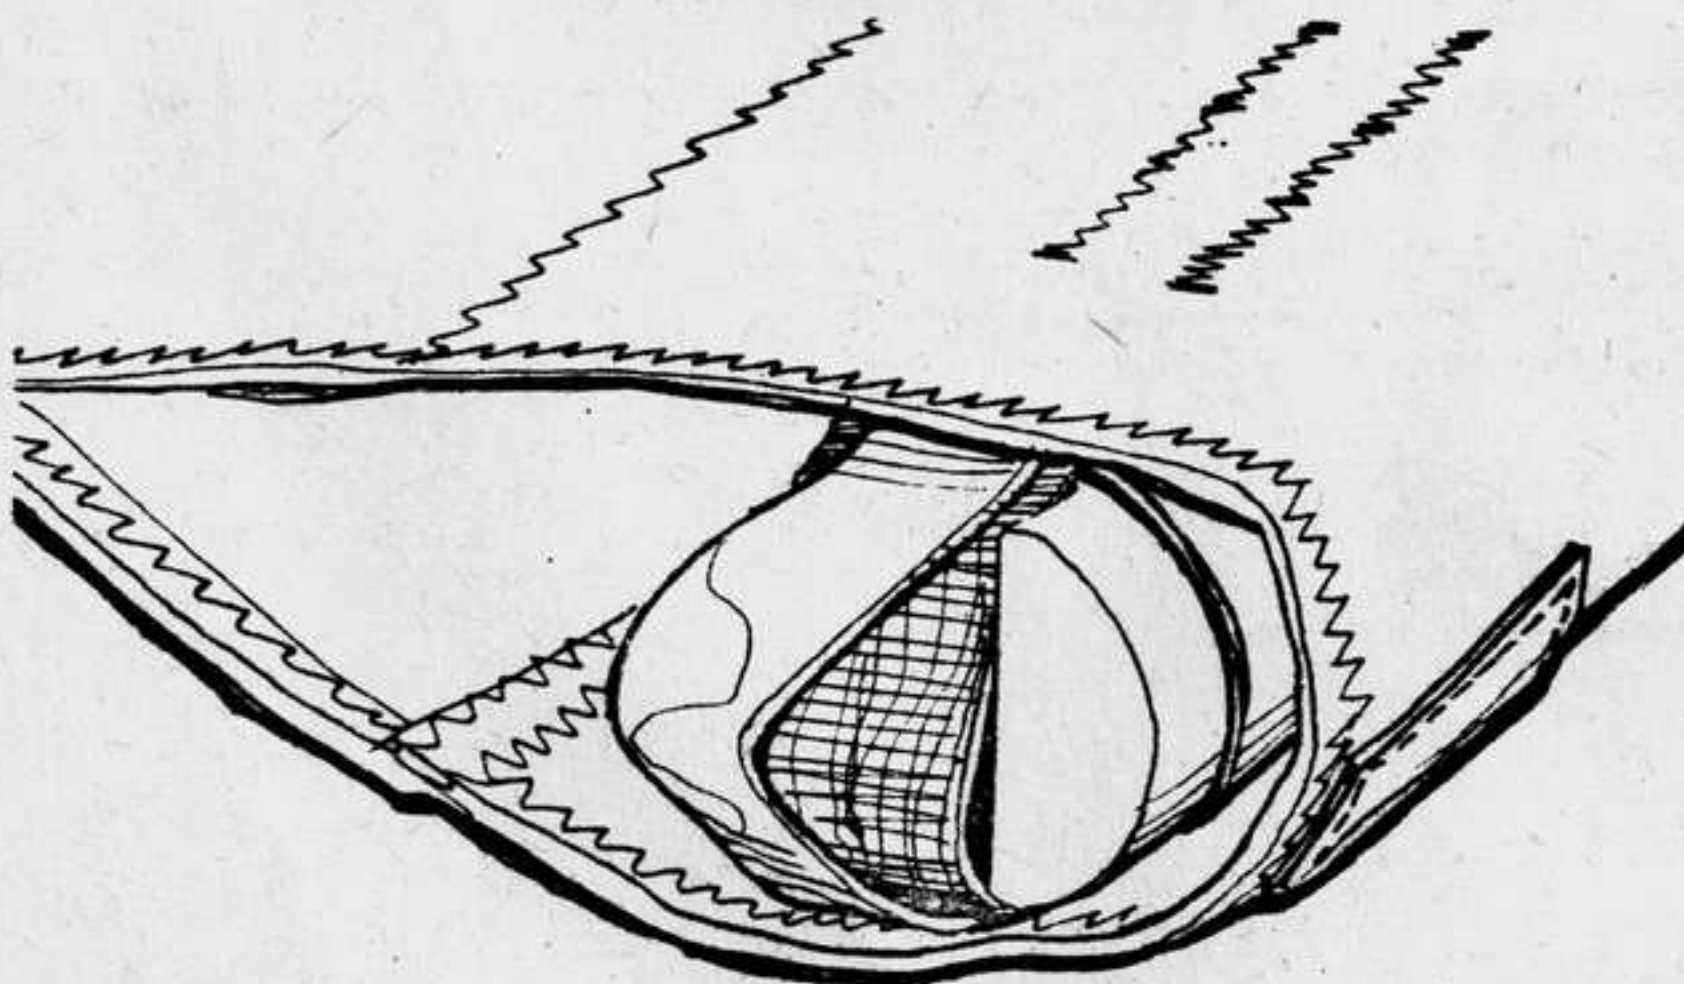

Fig.7
2.2.5. Look into the sail at each wing tip. Tip battens must be rested on the plastic stop. Check for any evidence of dents, deep scratches, cracks or bends in the LE tubes. Be sure that the sail mount webbing is safely and correctly secured in the end cap slot (fig.7). Pay attention to the symmetric tension of the sail.